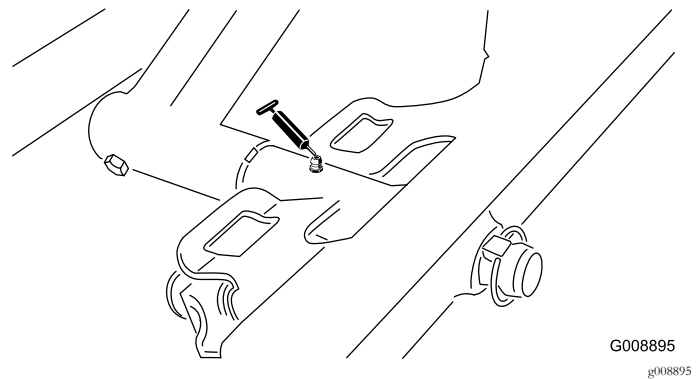

Figure 51
- Front cutting unit pivot (Figure 51)